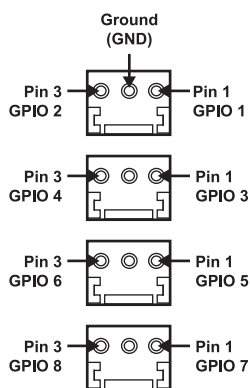
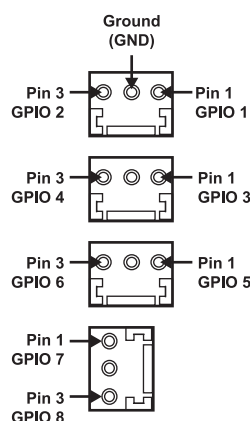

Figure 2.6 8310AR-033 GPI Connections
Figure 2.7 8320AR-033 GPI Connections
- Refer to **Figure 2.6** and **Figure 2.7** for GPI/Tally configuration on the Rear Module.